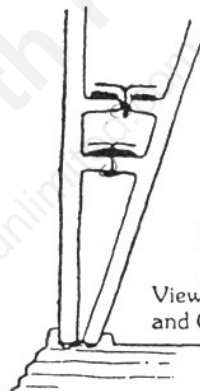
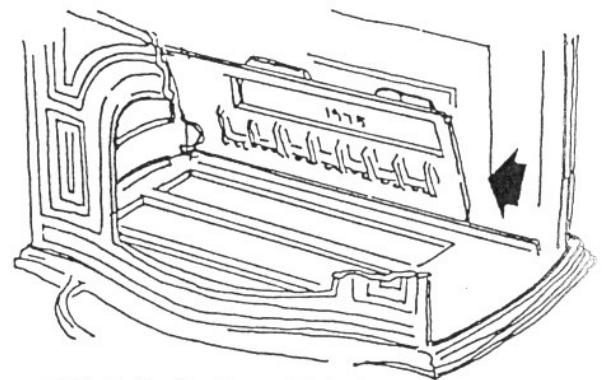

FIG. 7
FIG. 8 Position Lower Fireback
- Press the two 24" secondary screens into the cement on the back plate ribs (Fig. 7).
- Place the lower fireback into the appropriate bottom plate channel and lean it back toward the back plate. Rest the front edge of the secondary screens into the cement on the top of the lower fireback ribs. (Fig. 7) Tap the lower fireback to the left, into the appropriate channel in the left end. (Fig. 8)